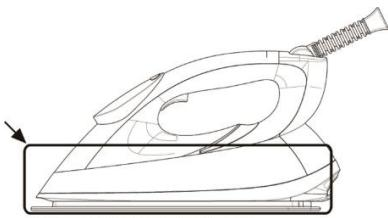

Figure 1: Left Side: hot surface
13. Do not touch the surfaces marked with symbol  during or just after ironing. They are hot! (Please refer to the Figure 1 and Figure 2 below).